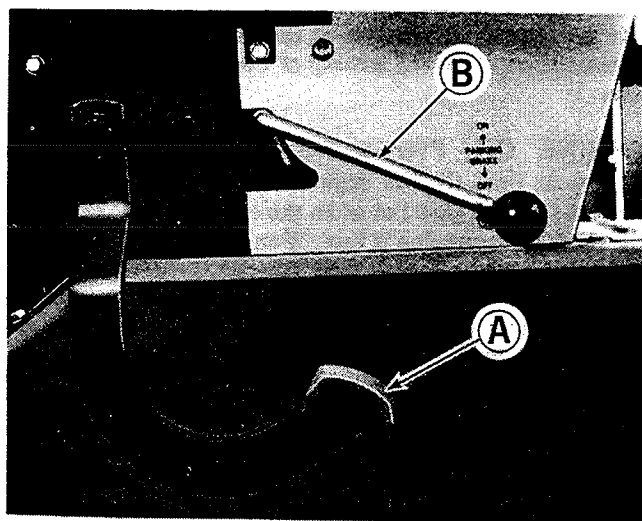

Figure 2. Clutch and parking brake lock on left side of tractor.
**CLUTCH PEDAL:** (Figure 2, item A) The clutch pedal is used to disconnect the tractor transmission from the engine. To disengage the clutch, press down on the clutch pedal. Release the clutch slowly to engage it. The clutch is very useful when starting a cold engine, since, when the clutch is disengaged, the starter motor is not required to turn the transmission. This provides more battery power for starting the engine. When the engine is running, the clutch pedal should be used for emergency stops only. Since the tractor is equipped with a hydrostatic transmission, the clutch is not required for starting, stopping, or shifting gears. It is not advisable to use the clutch for inching or starting forward movement of the tractor. The tractor can be inched and started more smoothly by using the hydrostatic control lever as described in this section.
**PARKING BRAKE LOCK:** (Figure 2, item B) The parking brake lock control located on the left side of the tractor should be used to lock the brakes in position after the tractor has been brought to a stop and before the operator leaves the tractor seat. When using the parking brake, the right and left brake pedals should be locked together, (see Brakes). If the brake pedals are not locked together, only the left brake will hold when the parking brake is set. To set the parking brake, apply pressure to the brake pedals with your right foot. At the same time, push the parking brake lock down as far as possible. Release the brake pedals. After pressure has been taken off the brake pedals, the parking brake lock will stay in position. To release the parking brake, apply pressure to the brake pedals and pull the parking brake lock up to the OFF position. Since the parking brake lock holds the left brake pedal directly, the parking brake will hold better and release easier if pressure is applied to the left brake pedal when setting and releasing it.